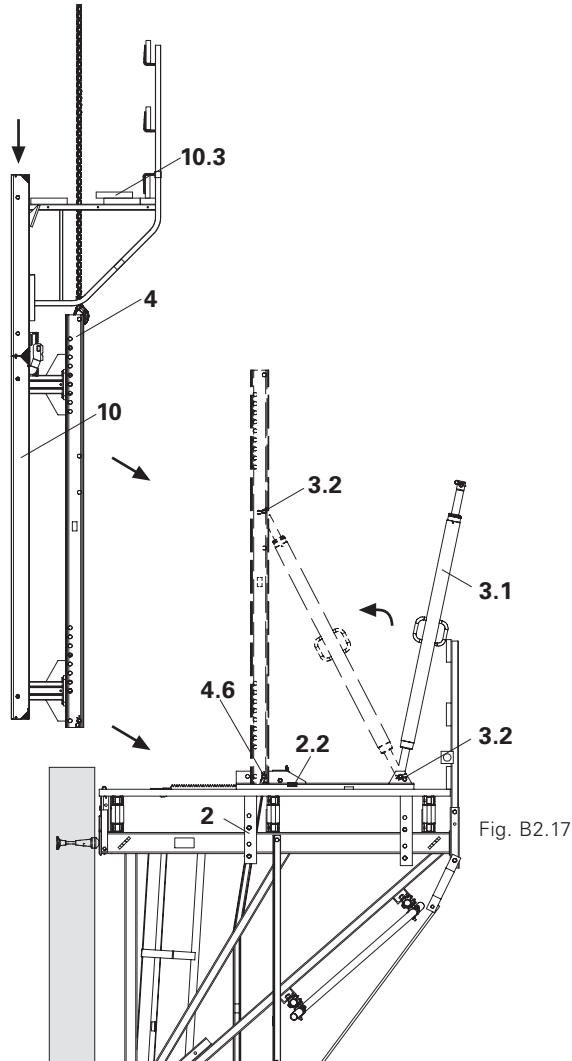

Fig. B2.17
1. Retract carriage (2) and secure with wedge (2.2).
4. Attach formwork unit (10) with concreting platform to the strongback (4) and position on the platform. (Fig. B2.17)